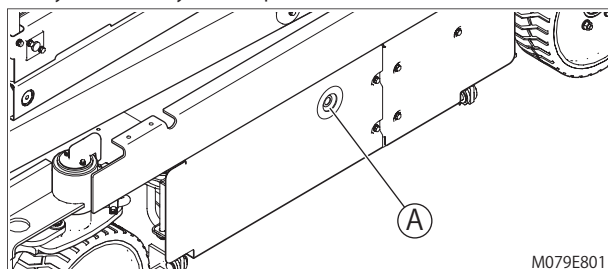

fig. 7-1
- Daily checks from the oil level gauge (fig. 7-1, A) can confirm the change of the hydraulic oil level that might show the hydraulic system problems.